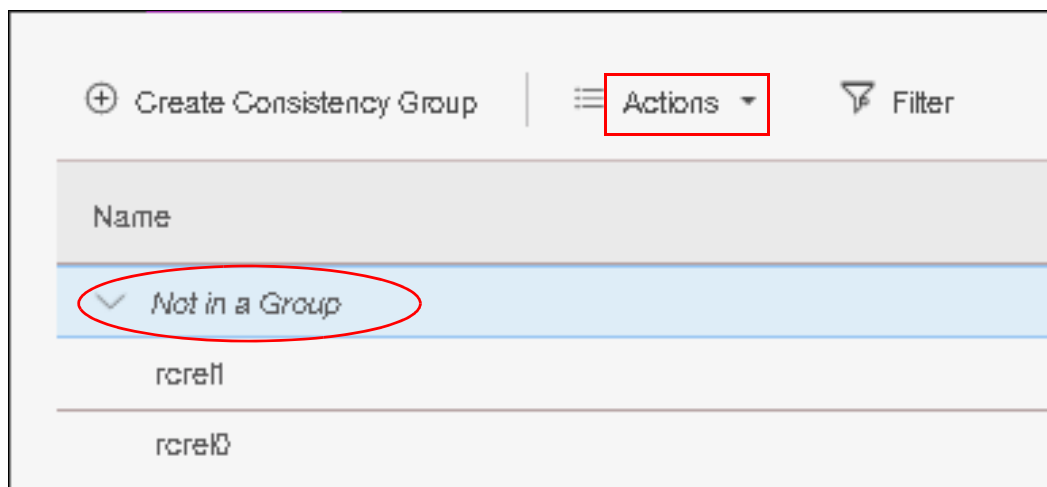

Figure 10-99 Creating a new Remote Copy relationship without consistency group
2. Select **Not in a Group** and then click **Action** as shown in Figure 10-99.